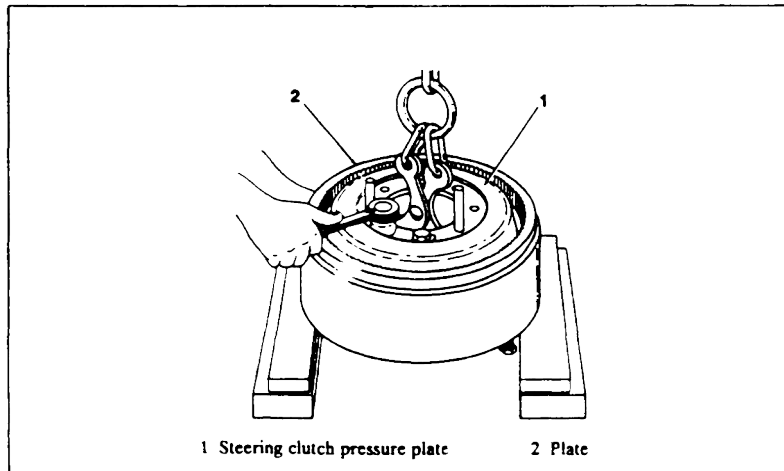

FIGURE 22. PRESSURE PLATE LOCATION
Step 3. Remove the pressure plate (Figure 22).